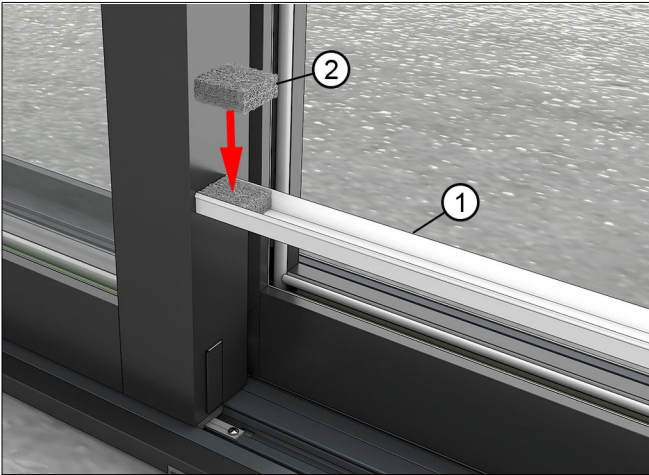

Figure 106 Uni-directional shown
1. Where a cover meets a panel, insert a sill drain filter in the end of the cover before installing it in the sill. See Figure 106.